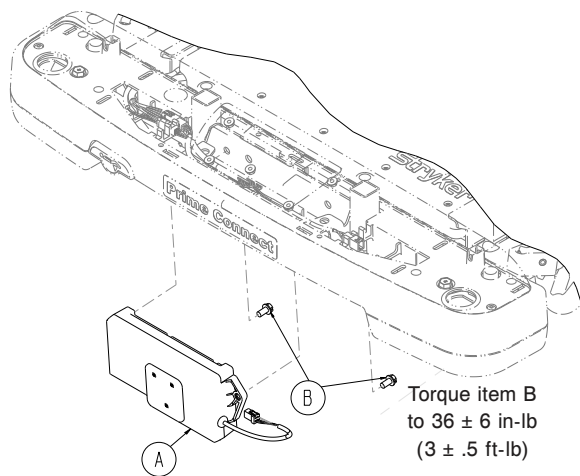

Figure 51 – Wireless module
13. Using a 3/8" combination wrench, remove the two hex washer head machine screws (B) that secure the wireless module (A) to the litter frame (Figure 51). Discard the hex washer head machine screws.